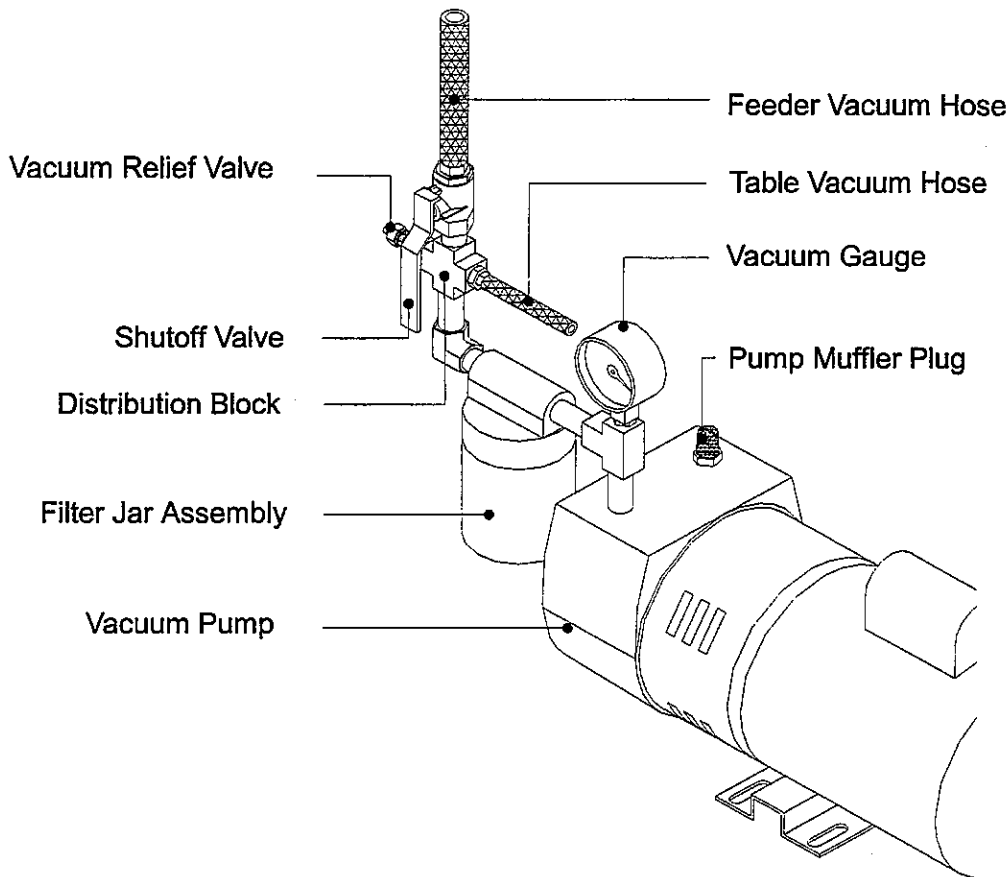

Figure 2.9 - Vacuum Pump System illustrating vacuum relief valve, shutoff valve, filter jar assembly, vacuum gauge and hose locations.
The vacuum system consists of a vacuum circuit breaker switch; a vacuum pump; a vacuum distribution block featuring a relief valve and vacuum gauge; and two hoses which lead to the vacuum table and feeder vacuum plate respectively. The larger diameter hose leading to the feeder station is equipped with a shutoff valve in order to regulate the vacuum for light mailpieces (See figure 2.9).
☞ To Set Vacuum Level (25 In.Hg) (See Fig. 2.9)
Peak feeder performance is achieved when the vacuum level is set to its maximum which is in the 20 - 25 In.Hg range. Adjustment is made via the vacuum relief valve situated on the distribution block (See Figure 2.9).
2. Close the shutoff valve (See fig. 2.9) by rotating it fully clockwise so that the valve handle points to the right (towards vacuum pump).